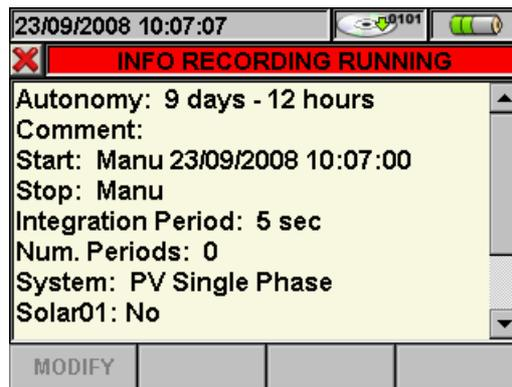

Fig. 151: Screen with information about recording in progress with PV system set
4. The screen shown in Fig. 151 contains the following information: